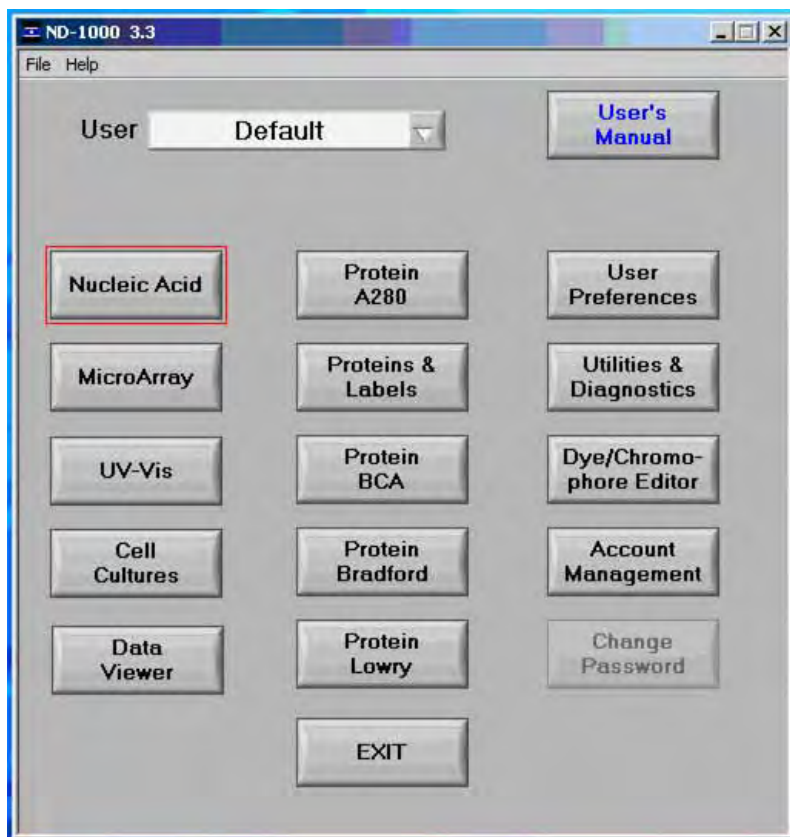

Figure 28 NanoDrop® ND-1000 Spectrophotometer software dialog box (from <http://nanodrop.com/nd-1000-software.html>).
2. Open the NanoDrop ND-1000 Spectrophotometer software to display a dialog box (see Figure 28 on page 190).